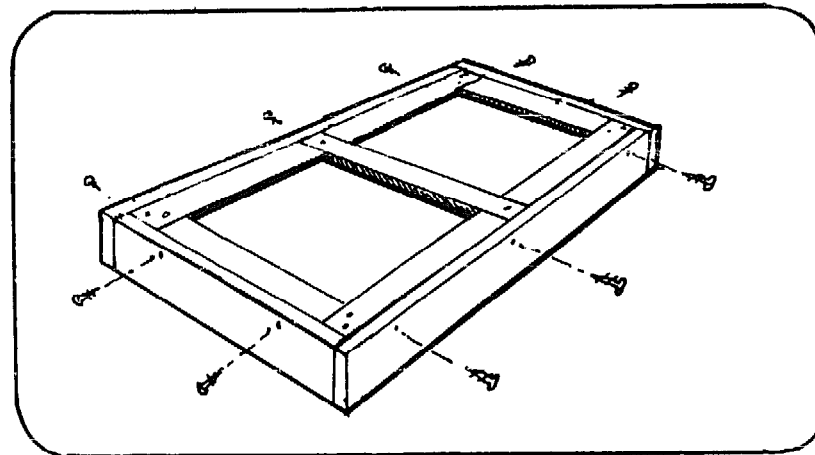

Figure 4
3.2 Set glazing frame built in Step 2 onto the collector box. Drill pilot holes in side pieces. Screw and glue side pieces to the frame as shown in Figure 4. Put finish nails between screws to strengthen.